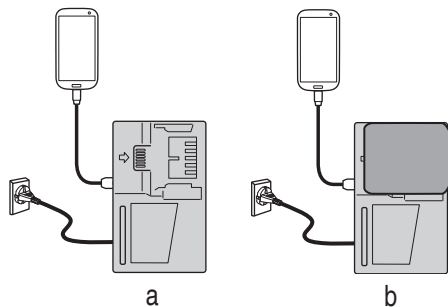

Fig. 8
- Charging a USB device from a electrical outlet. (**Fig. 8-a**)
- Charging a USB device and battery from a electrical outlet. (**Fig. 8-b**)